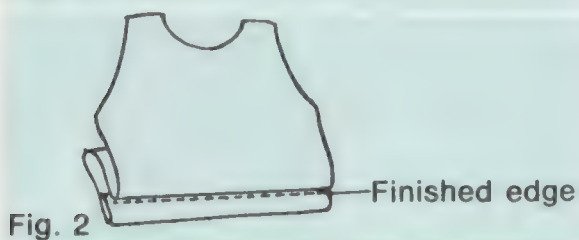

Fig. 2
2. Fold garment away from hem leaving 1/8" of hem edge extending. Fig. 2